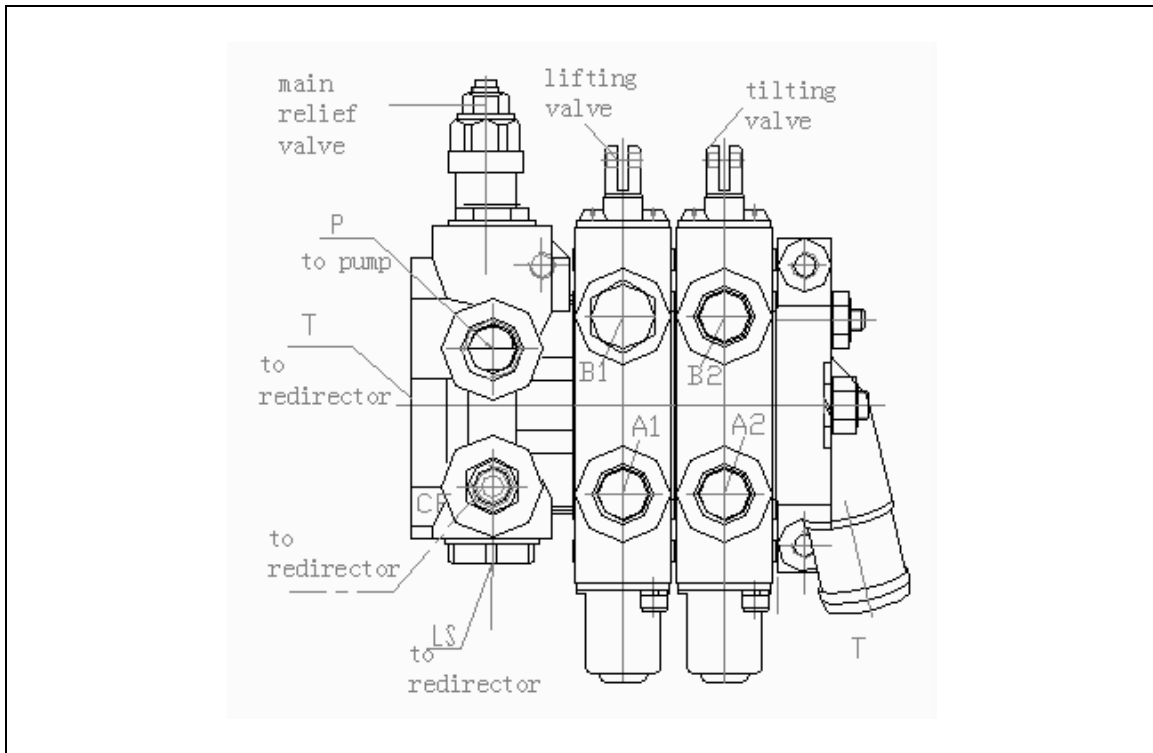

Fig.7-2
7.4. Hydraulic Control Valve (Fig. 7-2)